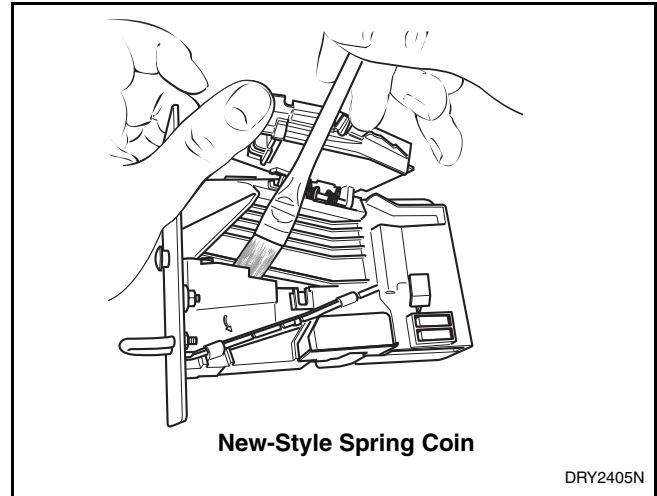
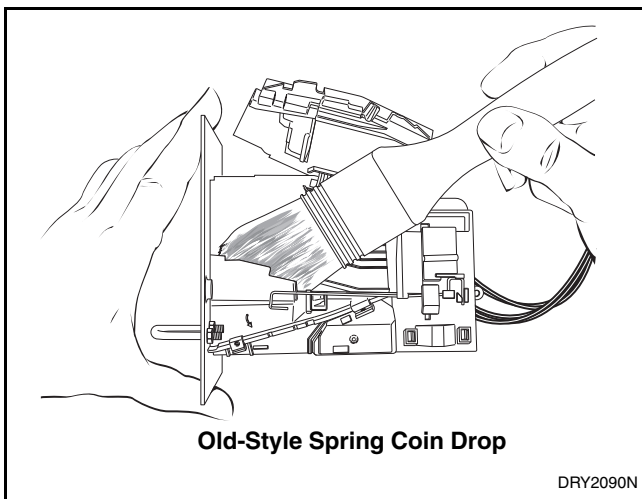

Figure 29
Figure 28
- d. Clean the coin path with a soft brush and wipe exposed surfaces with an alcohol moistened cloth. Refer to *Figure 28* or *Figure 29*.